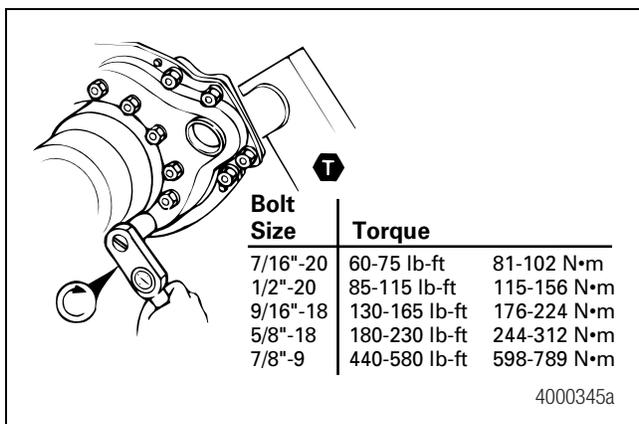

Figure 3.9
1. Tighten all spider bolts to the correct torque. Figure 3.9.
3. If the camshaft bracket has been removed, install the chamber bracket seal and bracket onto the spider. Tighten the capscrews to the correct torque. Figure 3.9.